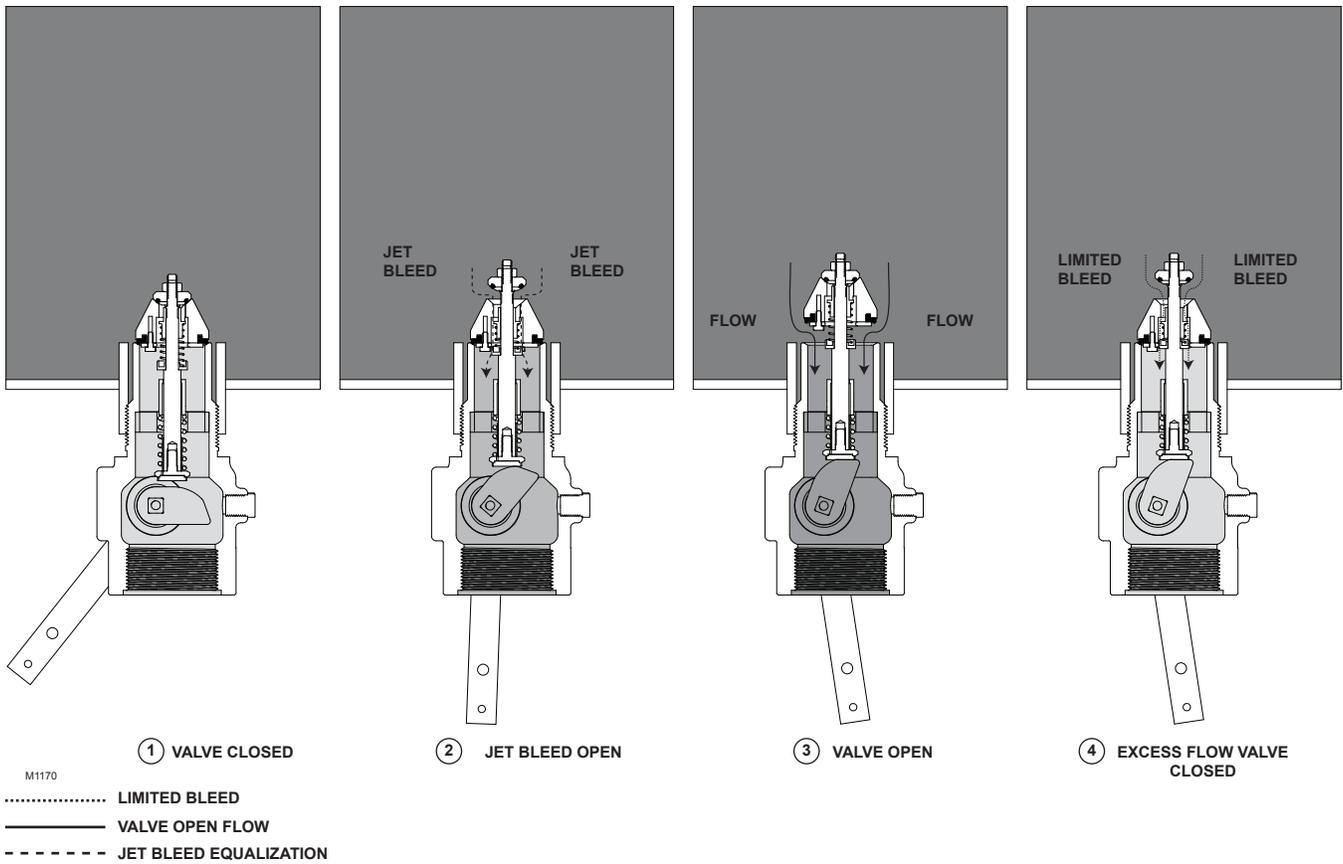

Figure 3. Operational Schematic
3. Move the lever to the half-open position (Figure 3, view #2) to equalize pressure. When the main poppet clicks open, move the operating lever fully open.
Refer to the schematic drawing, Figure 3. In view #1, the valve is held closed by both tank pressure and the valve's closing spring. There is no leakage past the resilient seats in the poppet to the valve outlet.
Refer to Figure 3. Looking at the end of the stub shaft (a) that the lever or actuator attaches to:
3. The 2 gland wings should be at the top as shown in Figure 3.